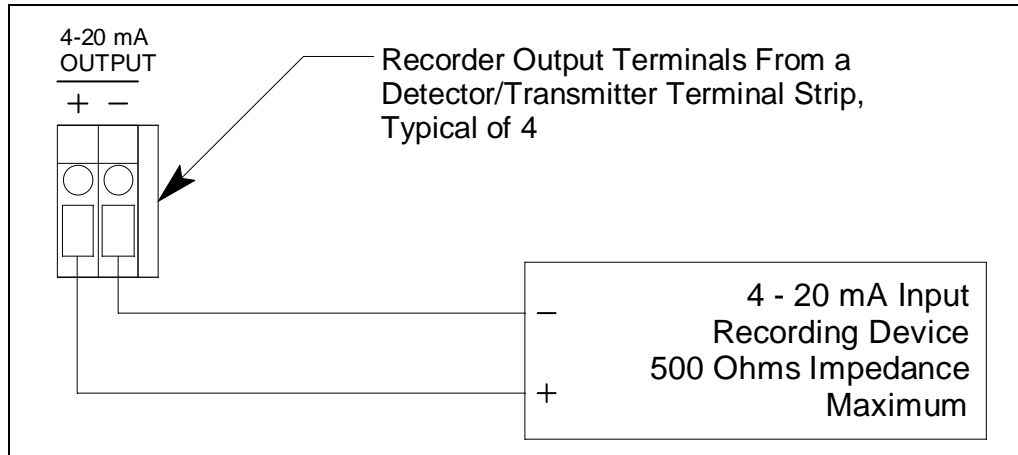

Figure 16: Recorder Output Wiring
6. Connect the leads from the recording device to the recorder output terminals of the selected active channels as shown in Figure 16 below